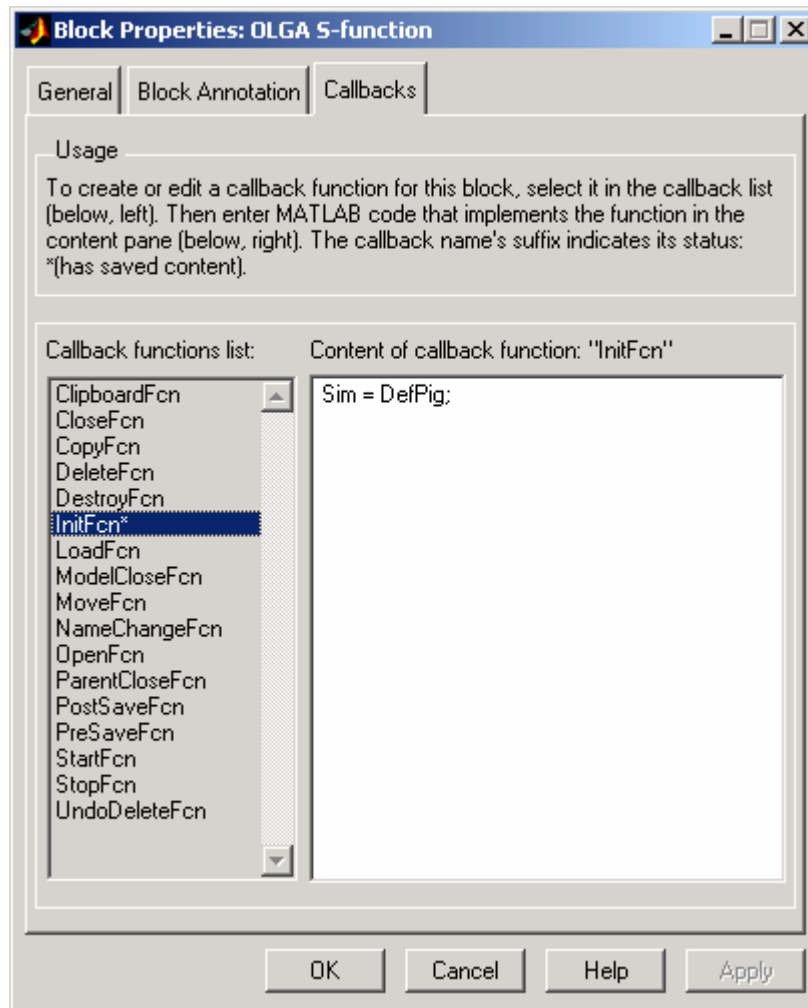

Figure 11.2 Block properties window
2. Right click on the OLGA block and select 'Block properties' from the popup menu. Then the Block properties window appears. Select the Callback tab and fill in the MATLAB syntax for invoking your MATLAB function in the `InitFcn` callback field, see Figure 11.2.